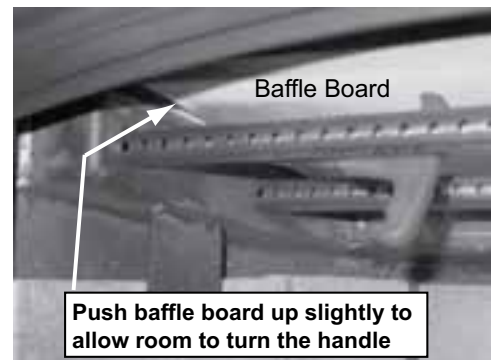

Figure 27A
3. With a 3/16" Allen wrench, remove the front manifold tube retainer bolts on the air channel under the end of the front tube. **See Figure 27A.** **NOTE:** Soak the bolts with penetrating oil for at least 15 minutes before trying to remove them.